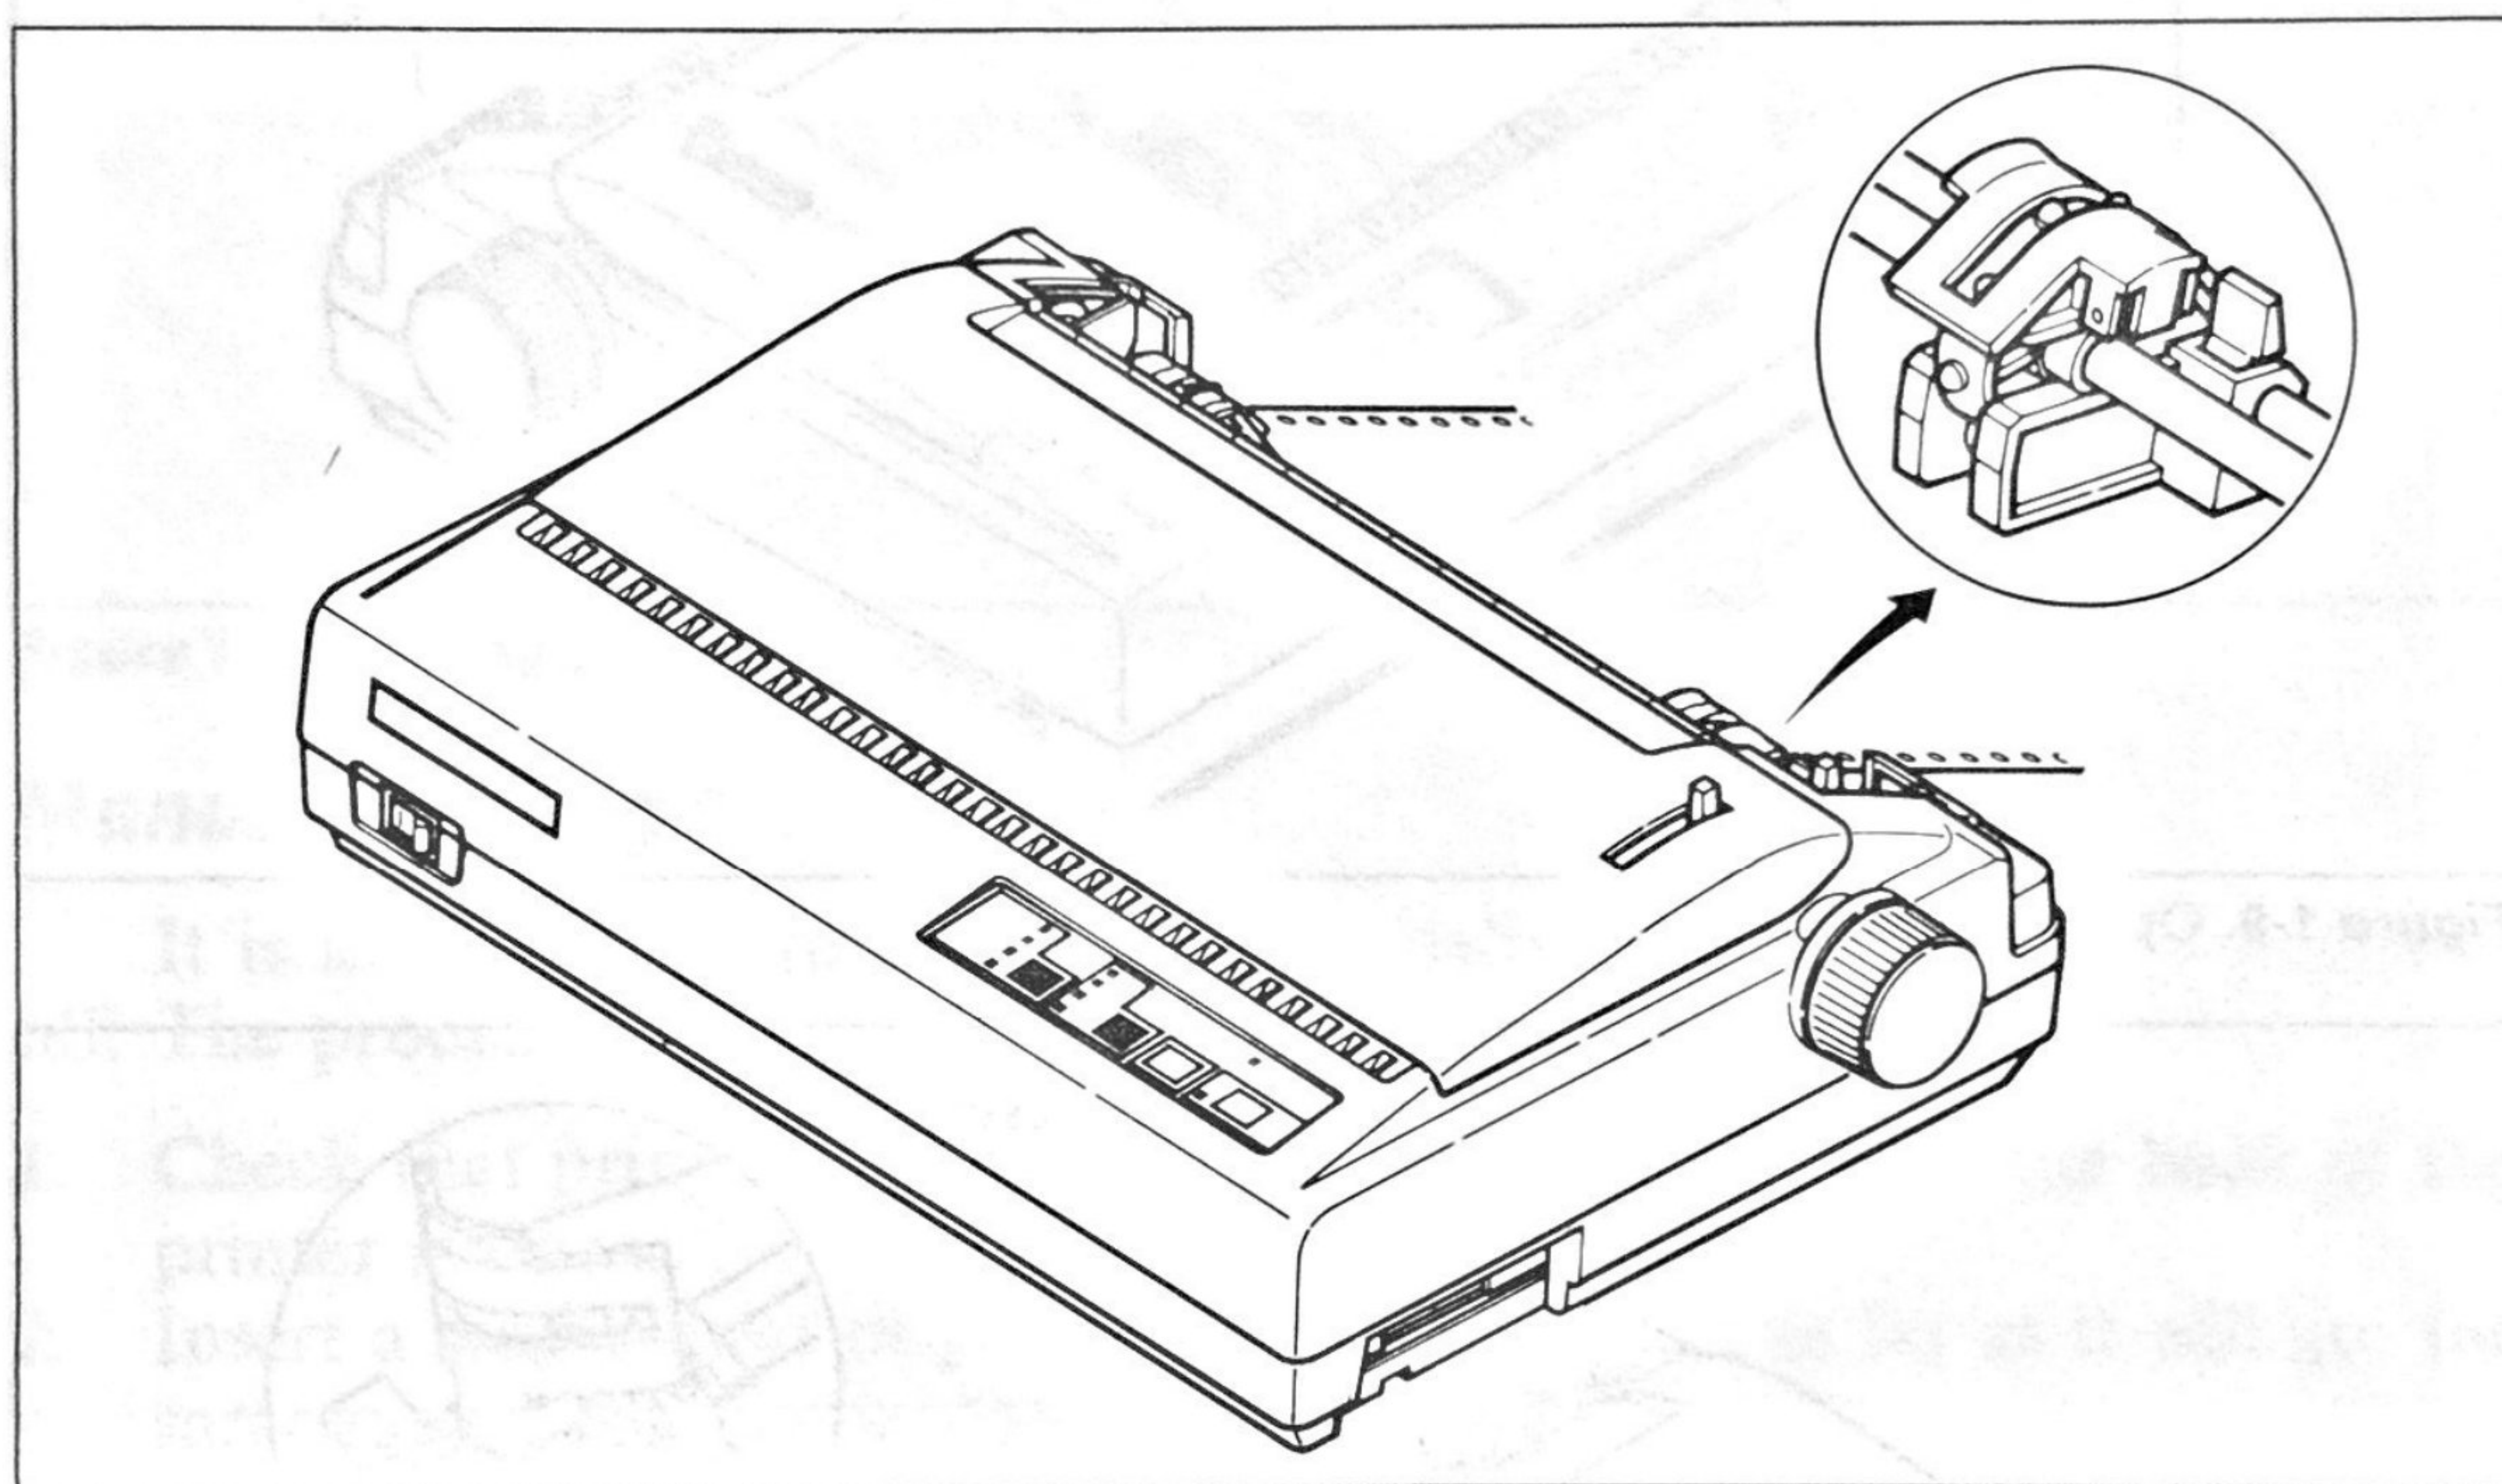

Figure 1-11. Closing the sprocket covers
11. Close the sprocket covers (Figure 1-11).